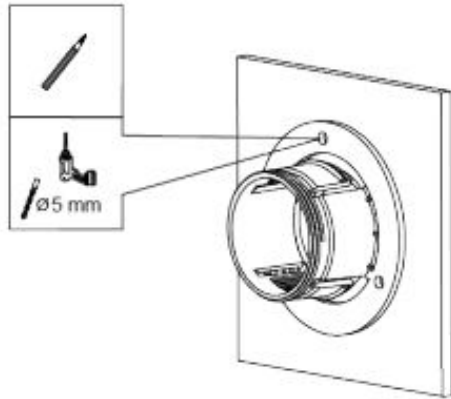

Figure 2-4
Step 1 Place the lens assembly mount onto the mounting surface then use a pencil to mark the mounting hole locations. Use a 5mm drill bit to drill the mounting holes. See Figure 2-4.